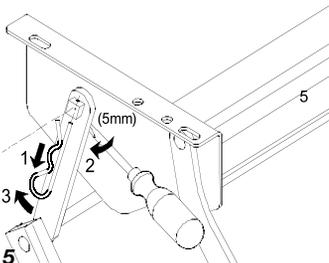

Fig. 5
If the step does not retract by motor: Loosen the square connection according to fig. 5 (actions 1, 2 and 3), push the footboard in (4) and tie it to the frame.